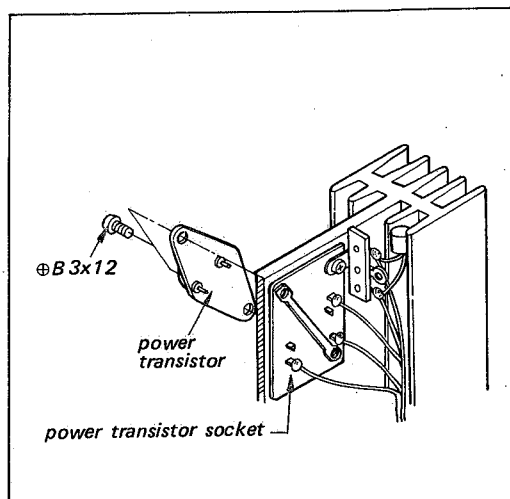

Fig. 2-6. Power transistor replacement
3. Remove the two screws ($\oplus B 3 \times 12$) securing the power transistor to the heat sink with its socket as shown in Fig. 2-6.